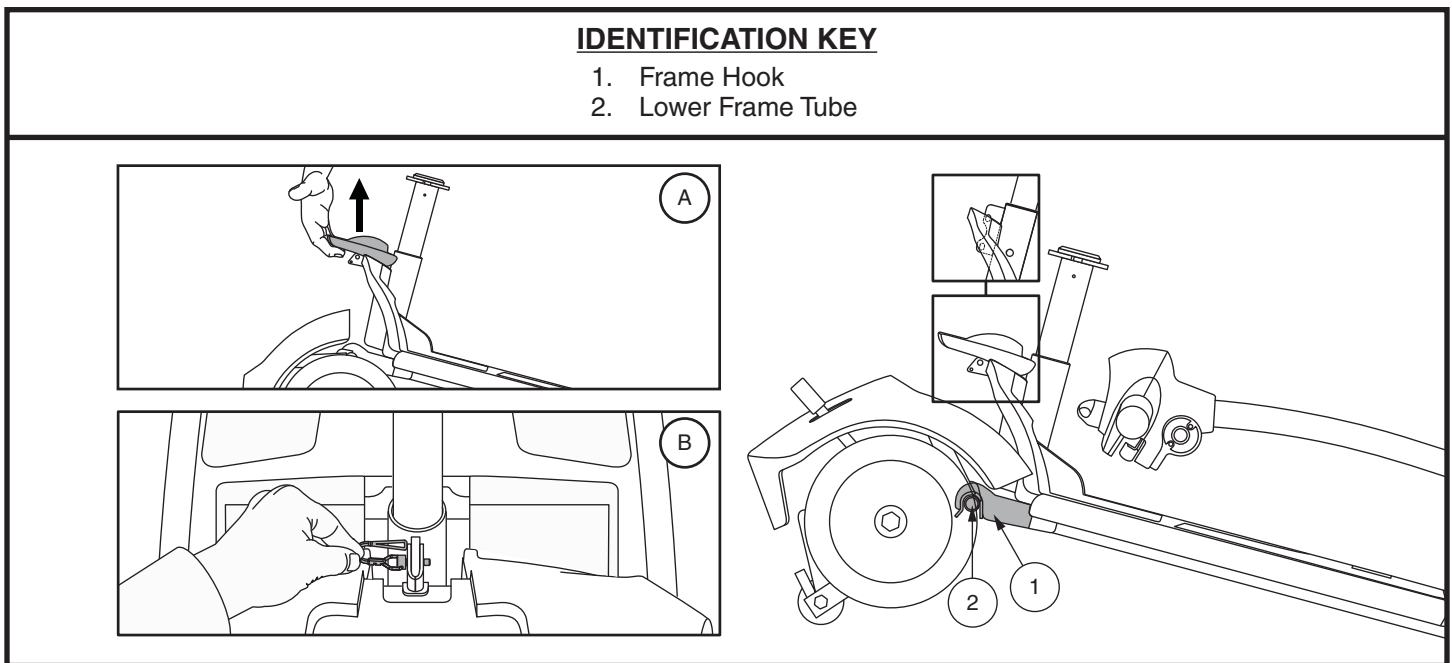

Figure 33. Frame Release Lever (Style A) and Frame Release Lock-up Pin (Style B)
4. Slowly separate the two sections of the Travel Scooter. **See figure 33.**
NOTE: Before attempting assembly, tilt the rear half of the Travel Scooter slightly back on the anti-tip wheels as shown in figure 33.
1. Use the frame release lever (or the seat post for models 36, 83, and 84 only) to lift the front section as you align the frame hooks of the front section with the lower frame tube of the rear section. **See figure 33.**
2. Once the frame hooks are over the lower frame tube, lower the front section and pivot the rear section simultaneously. This will engage the frame lock-up automatically for models 39, 40LX, 40X, 44X, 40E, 44E, 44LX, 49, 50LX, 54LX, 53, 53HD, 54, 54HD, 66, 67, 73, 74, and Jazzy ZTS. For models 36, 83, and 84, you will also need to reinstall the frame lockup pin to complete the body assembly. **See figure 33.**